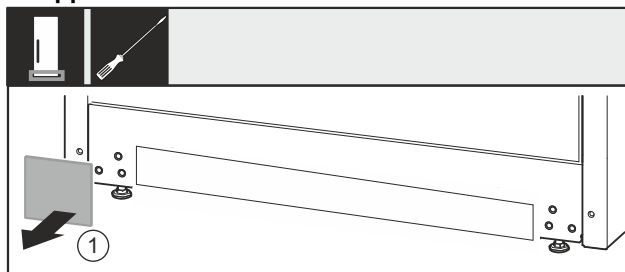

Fig. 28
- ▶ Remove the cover Fig. 28 (1).